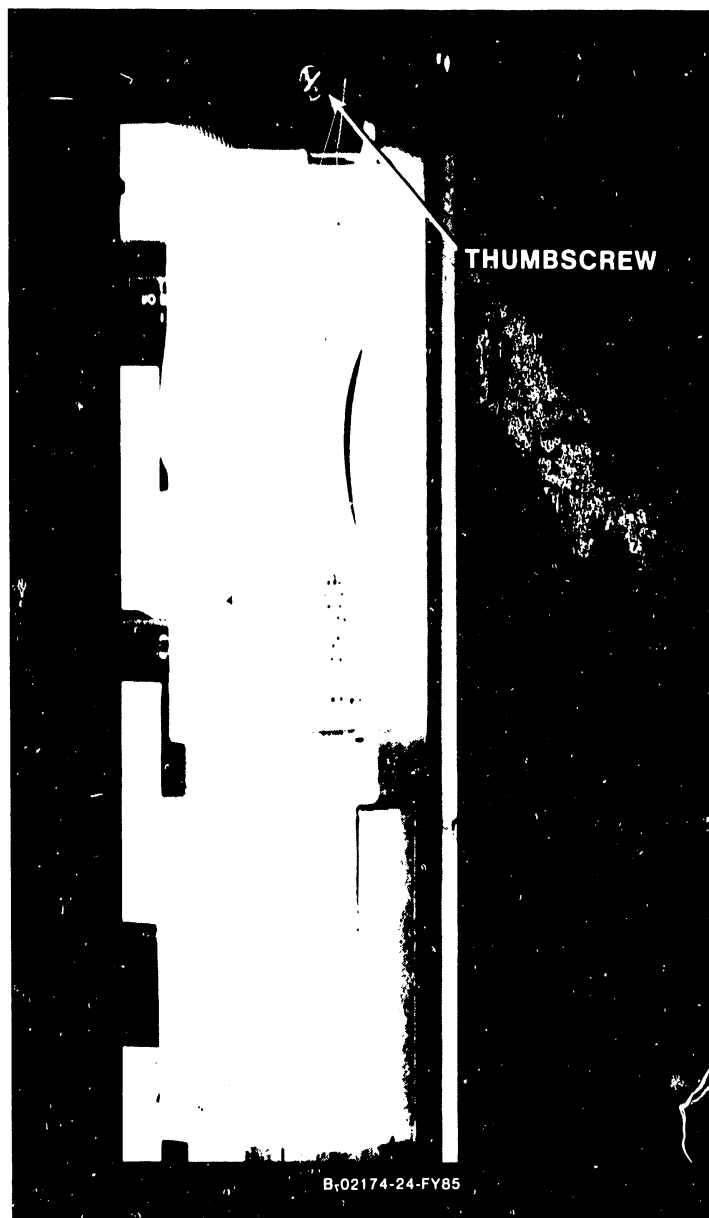

Figure 5-47. 5-1/4 Inch Half-Height Diskette Drive
4. Unscrew the spring loaded thumbscrew at the top of the drive that secures the drive to the chassis (figure 5-47).